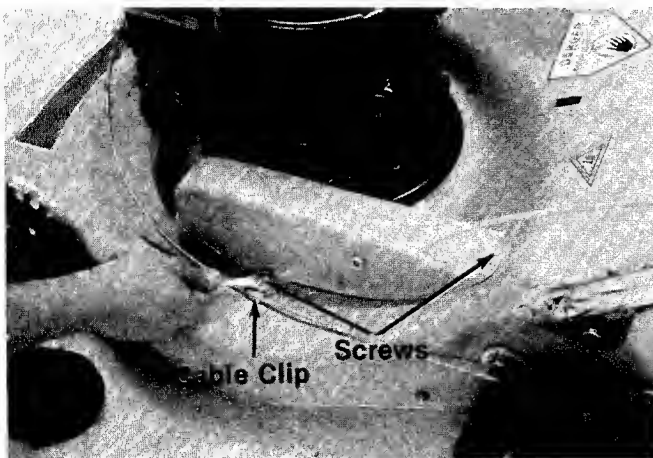

FIGURE 24.
3. Remove the three screws holding the cable clip and belt guard (and idler assembly). See figures 24 and 25.